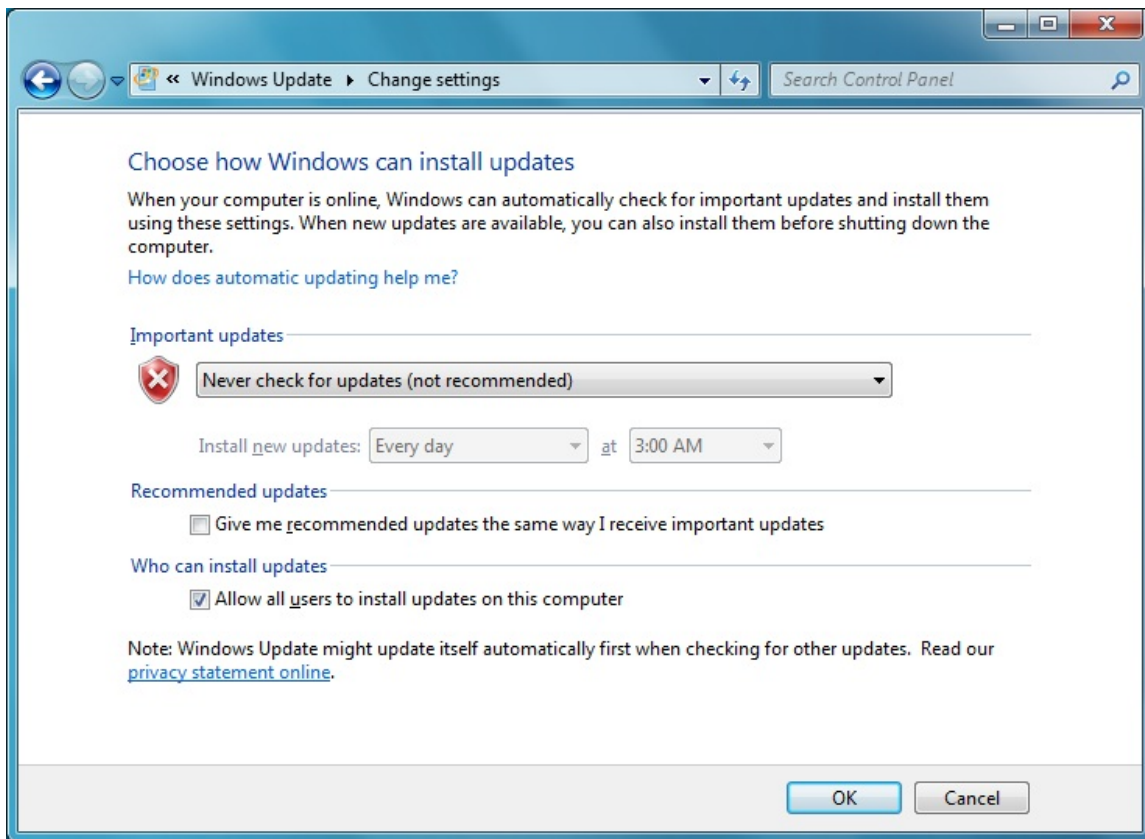

Figure 3-5: Windows Update – Change Settings
2. Under the *Important Updates* section, select **Never check for updates**, as shown in Figure 3-5.